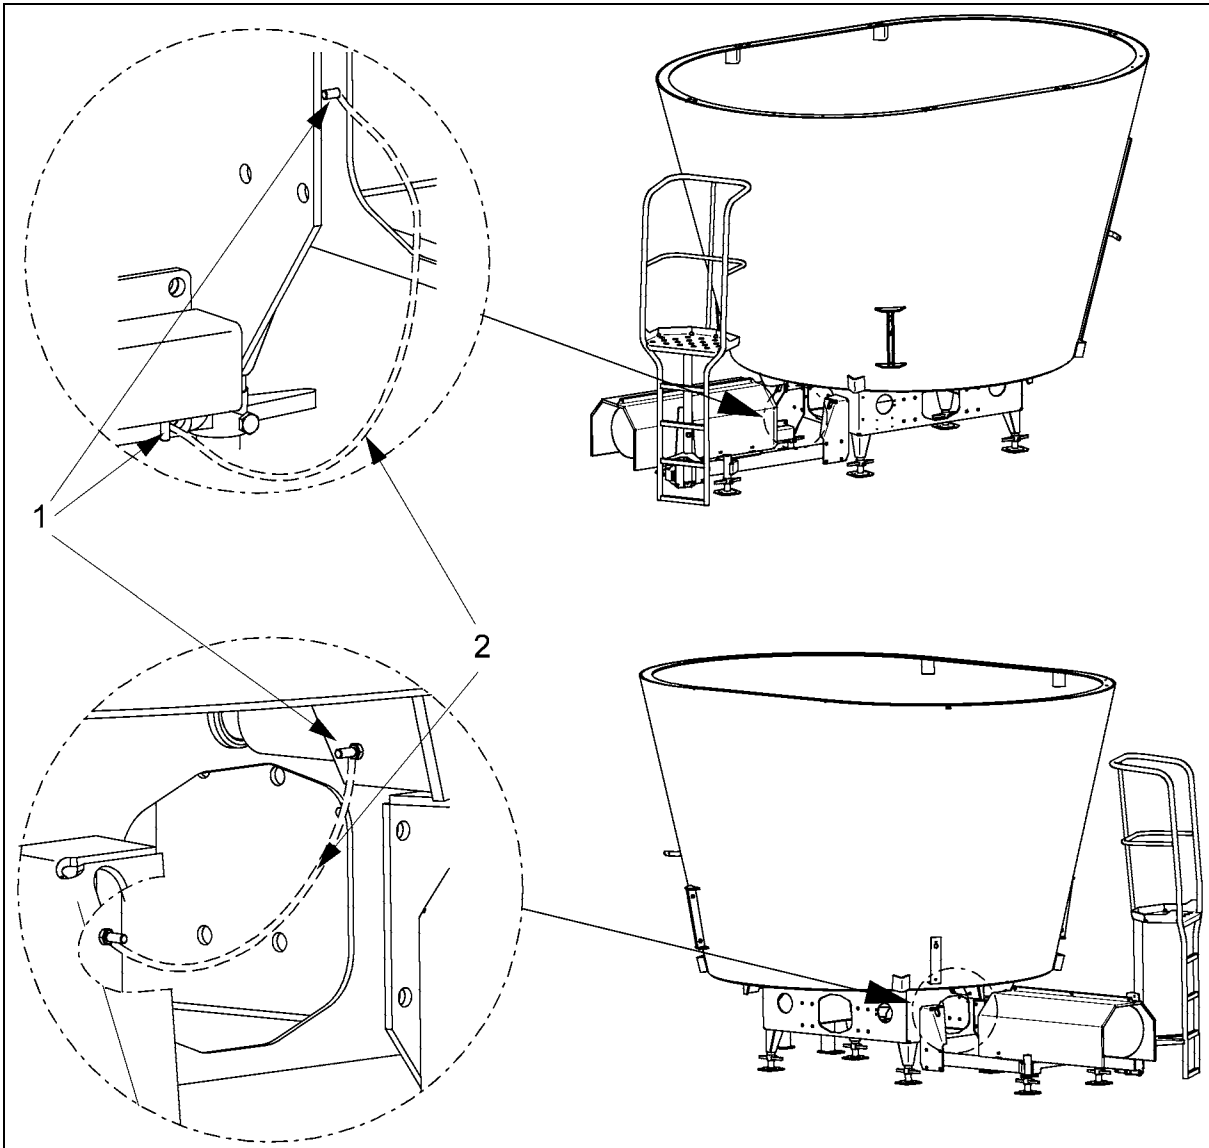
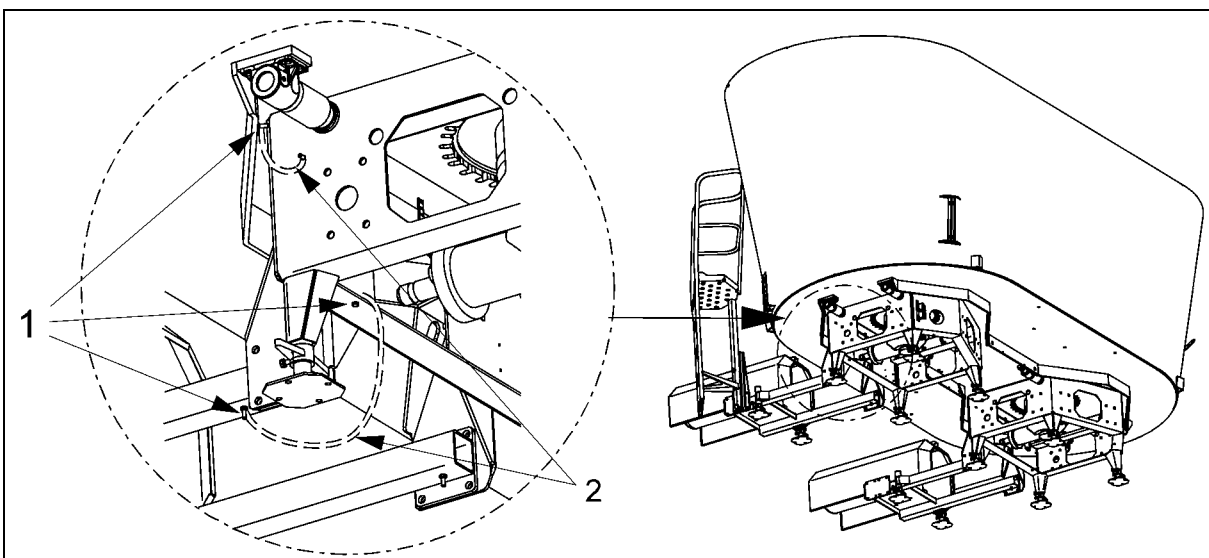

Fig. 30 Bio-Mix, Bio Mix Combi
Fig. 31 Bio-Mix Double
- 1.1 Screw the connecting cable (1) to an M8 screw (2) on the machine. For Bio-Mix and Bio-Mix Combi please refer to Fig. 30 and for Bio-Mix Double to Fig. 31.